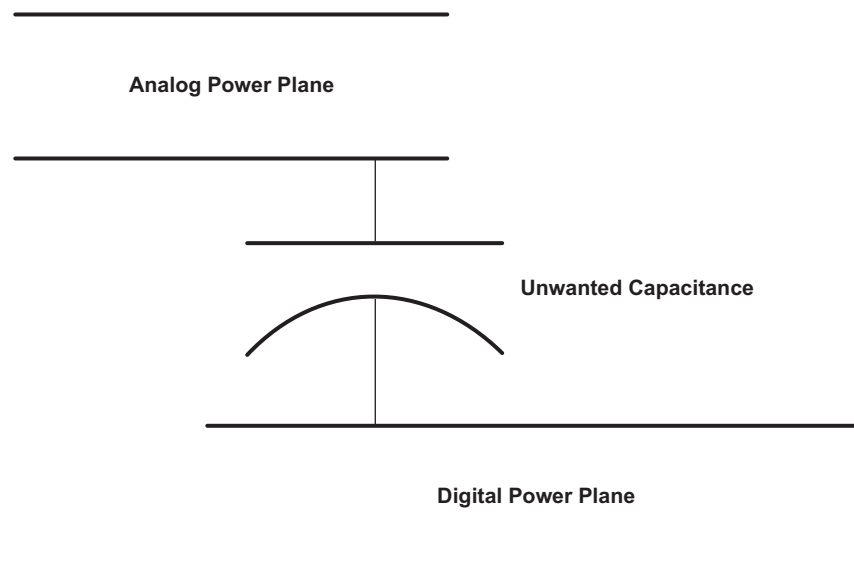

Figure 7-37. Do Not Overlap Planes
- Do not overlap planes that do not reference each other. For example, do not overlap a digital power plane with an analog power plane as this produces a capacitance between the overlapping areas that could pass RF emissions from one plane to the other, as shown in Figure 7-37.